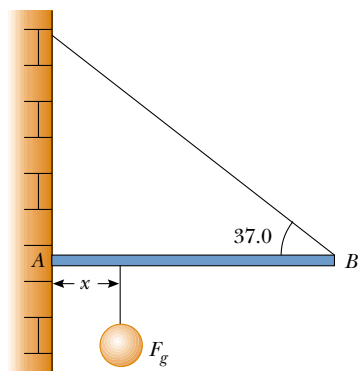

Figure P12.23
23. One end of a uniform 4.00-m-long rod of weight F_g is supported by a cable. The other end rests against the wall, where it is held by friction, as in Figure P12.23. The coefficient of static friction between the wall and the rod is $\mu_s = 0.500$. Determine the minimum distance x from point A at which an additional weight F_g (the same as the weight of the rod) can be hung without causing the rod to slip at point A.